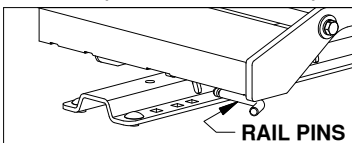

Figure B2: View of base leg.
2. Locate the 4 rail pins and hair pins. Insert each pin into the corresponding slot on the universal rail kit and through the Patriot Slider base pin tabs. Lock each pin into place with a hair pin, see Figure B2 & B3.